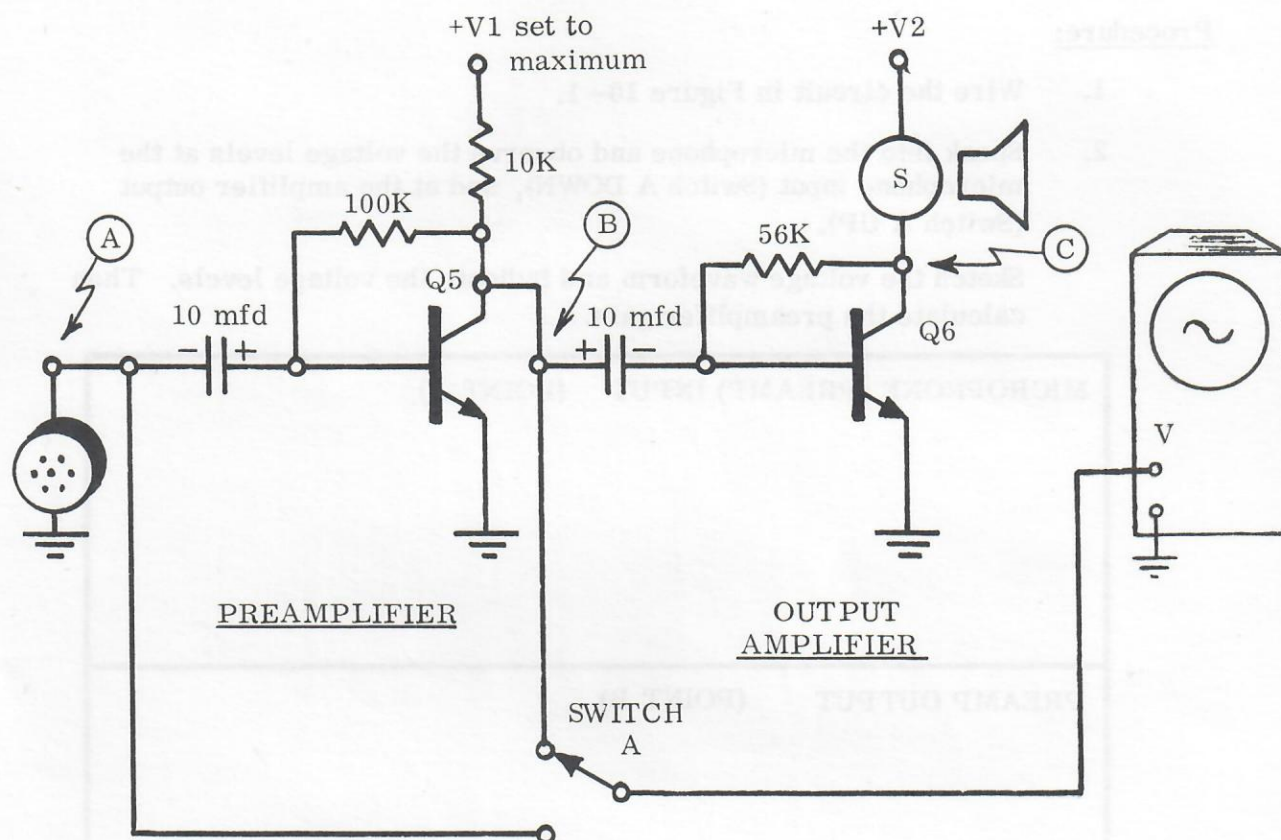

Figure 10 - 1 Audio Preamplifier
In the previous experiment, the voltage output from the microphone was not adequate to drive the output audio amplifier. Low level voltage signals are obtained from microphones, radio tuners, phonographs, and tape recorders. It is necessary to provide a high gain preamplifier to increase the voltage level. A simple common emitter amplifier is generally used. The circuit in Figure 10 - 1 uses a collector feedback bias. Other common circuits use a high base-resistor (1 Megohm) to the positive voltage for bias, or an emitter resistor for bias stability as described in experiments in the Transistor Study Unit.
1. Wire the circuit in Figure 10 - 1.